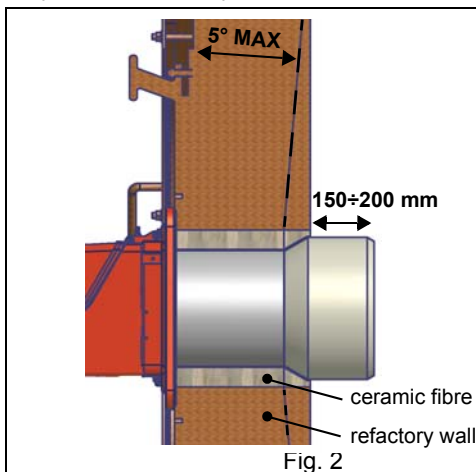
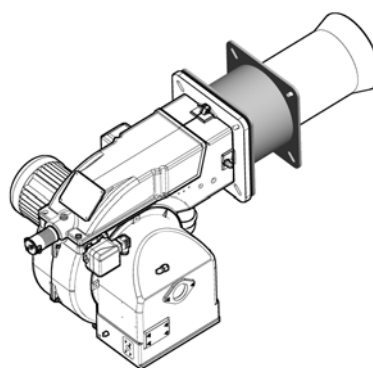

Fig. 2
Fig. 3
- Cast-iron boilers, three pass flue boilers (with the first pass in the rear part): the blast tube must protrude about 150÷200 mm into the combustion chamber (Fig. 2). The length of the blast tubes does not always allow this requirement to be met, and thus it may be necessary to use a suitably-sized spacer to move the burner backwards (Fig. 3).